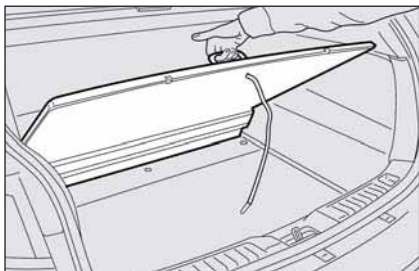

fig. 2
- Use the special handle to lift the load surface (where provided), as shown in **fig. 2**;